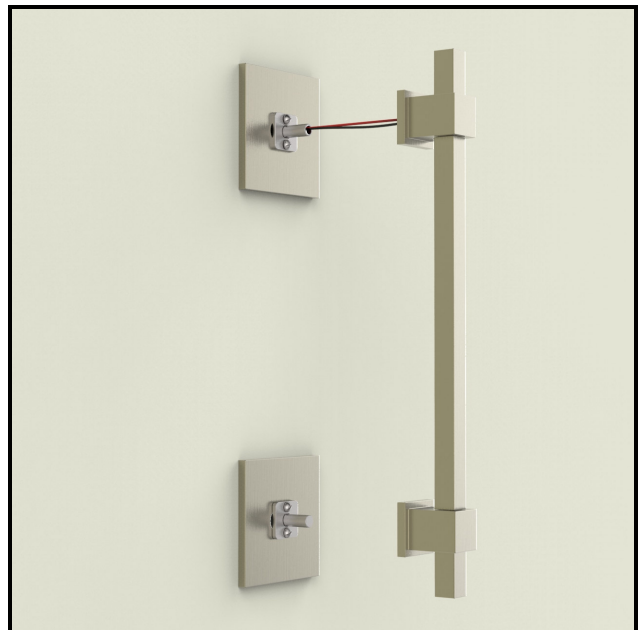

Figure 20
- Carefully slide fixture over posts until it is firmly seated against wall. (Figures 20)